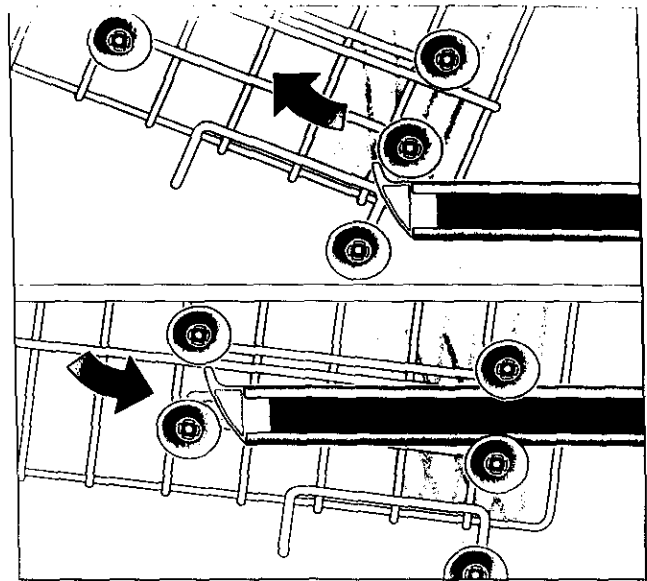

Figure 6.
The upper rack height of the The DLX series dishwashers (SHU 4022 UC, SHU 4026 UC and SHU 4036 UC) is adjustable. There are two positions, see figure 6:
- First empty upper rack and pull rack partially out to point where rack can be lifted upward as shown in upper illustration of Figure 6.